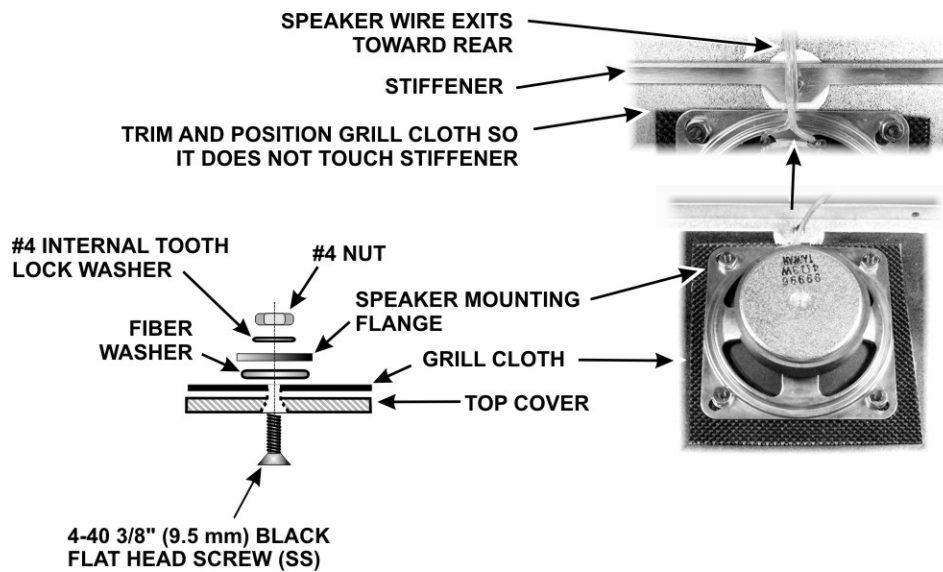
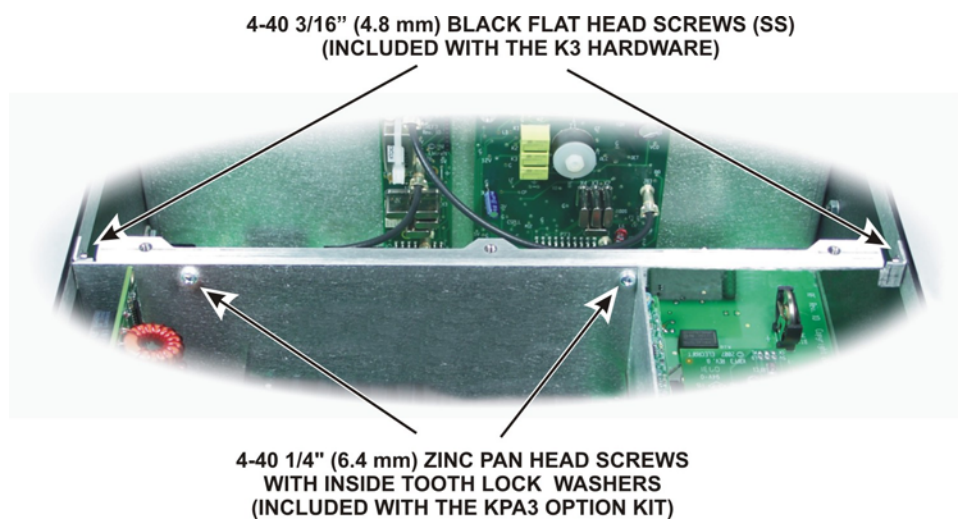

Figure 77. Mounting Loudspeaker.
Figure 81. Installing the Chassis Stiffener Bar.
- Trim the grill cloth to cover the speaker grill openings and overlap the four holes for the loudspeaker mounting screws. Mark and cut four holes in the grill cloth for screws to pass through the cloth. The grill cloth is shown as it must fit after the speaker is mounted in Figure 77. Normally, the stiffener will remain attached to the K3 when you remove the top cover. If you install the KPA3 100-watt amplifier, the stiffener will be attached to the KPA3 shield and cannot be removed with the cover (see Figure 81 on page 55). The grill cloth must be trimmed as shown so it cannot become trapped between the chassis stiffener and the top cover when the cover is removed and replaced.
□ Mount the speaker using the hardware shown in Figure 77. A suggested procedure for doing this is as follows:
☐ Remove the stiffener bar from the top cover and install it on the chassis as shown in Figure 81. The hardware required to attach it to the shield are in the KPA3 Option kit. The black flat head screws used to attach it to the side panels are part of the K3 kit hardware.